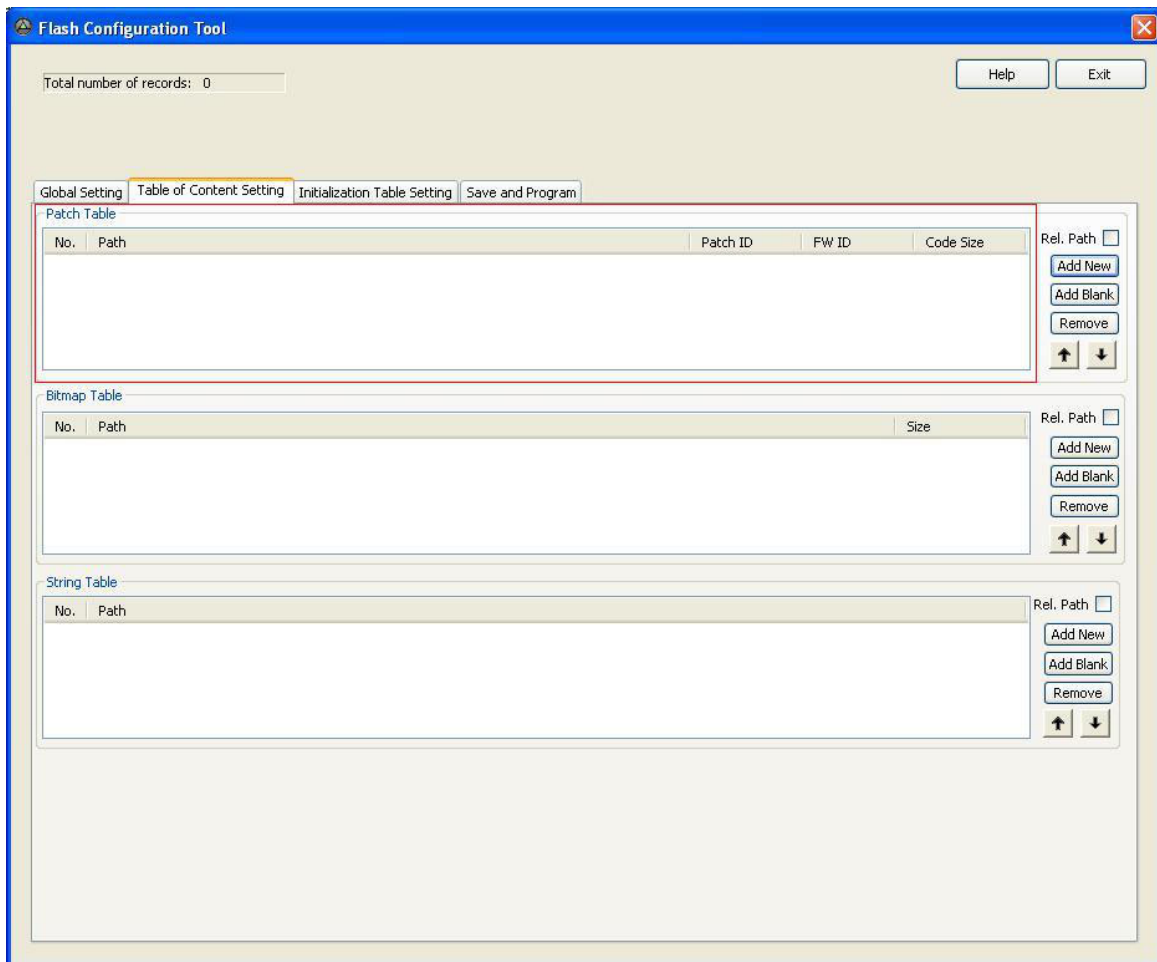
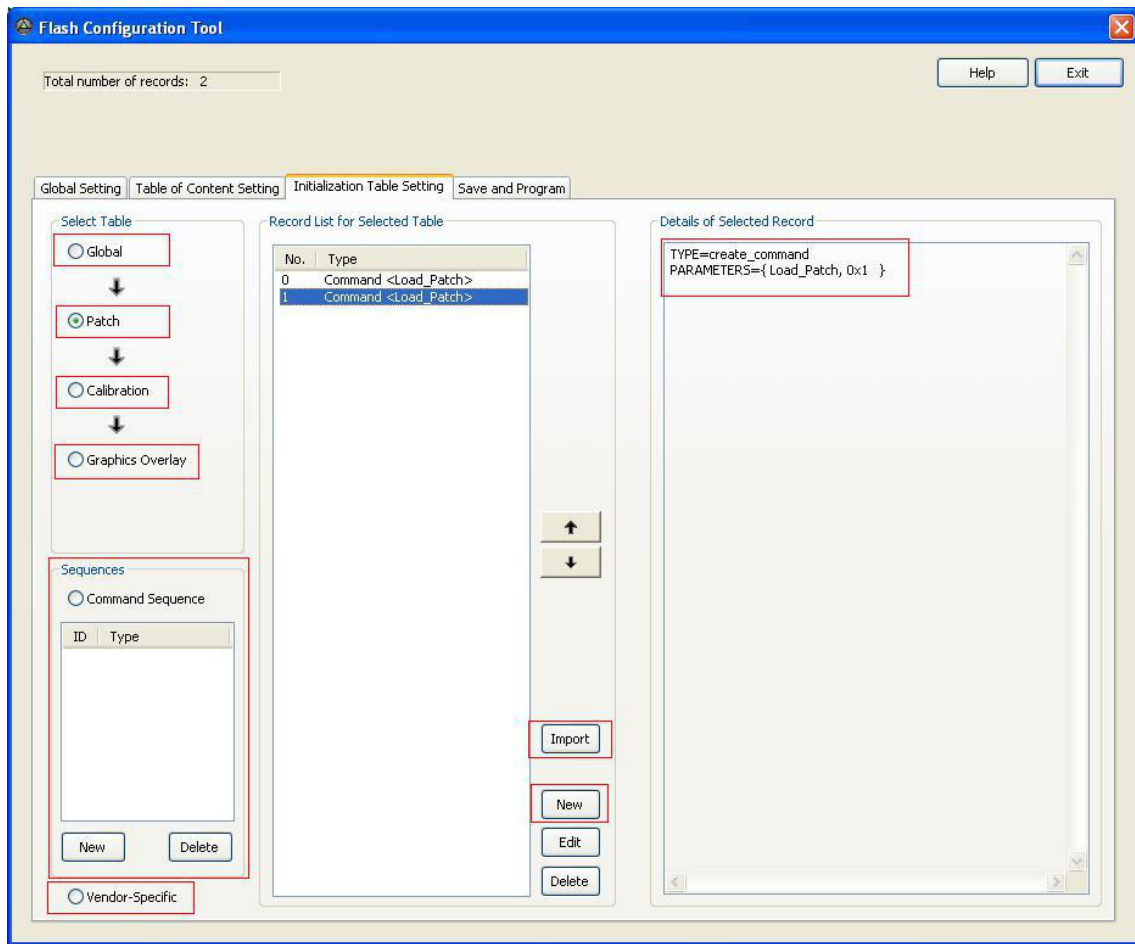
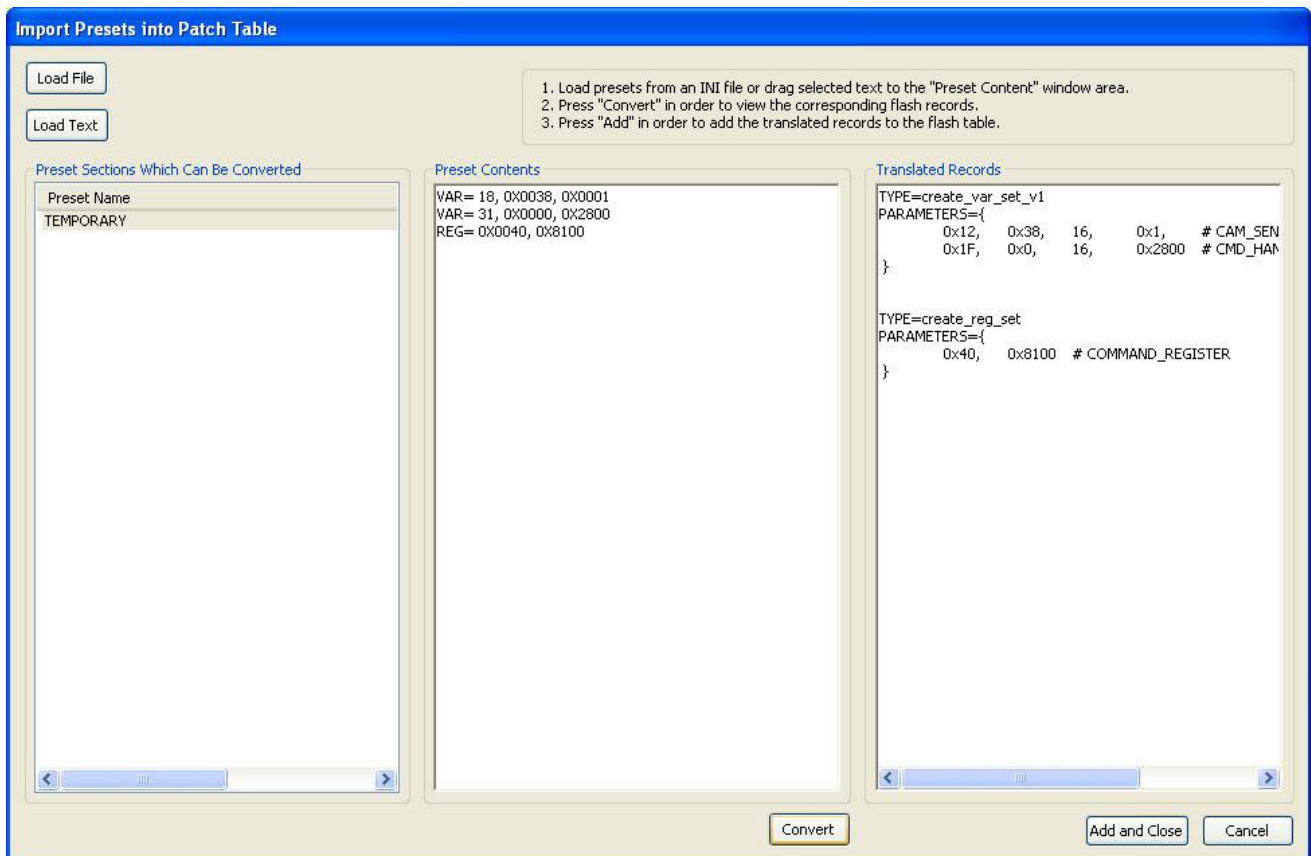

Figure 68. Patch Table
Figure 69. Initialization Table Setting Tab
Figure 72. Convert Commands to Flash Records
In the case when patches are required to apply, they need to be included in Patch Table as shown in Figure 68. However, including a patch in the Patch Table does not mean it is automatically applied. In order to apply a patch, the *Load\_Patch <Patch ID>* command is required to be included in *Initialization Table Setting* → *Patch* section as shown in Figure 69. The patch ID corresponds to the number in Patch Table.
shown in Figure 69. To add one command line at a time, click on New, which is mostly useful for adding an HCI command as shown in Figure 70. There are other record types that can be selected in the drop-down list of *Select Record Type*, such as customer-specific records, and so on.
4. Go to FlashTool, and click on *Import* as shown in Figure 69 to bring up Figure 72 GUI.
6. Go to FlashTool, and click on *Import* as shown in Figure 69 to bring up Figure 72 GUI.
- As shown in Figure 69, check *Vendor-Specific* on the bottom left, and then click on *New*.
The ASX340AT supports a Command Sequence Processor, which allows host commands and register writes to be executed from a command sequence record stored in NVM. In Figure 69, in the command sequence box, click on the **New** button to create a new command sequence.